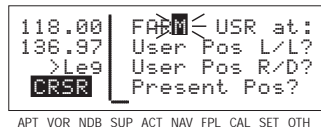

Figure 5-23
3. Spell out the rest of the identifier using the right inner and outer knobs (figure 5-23).